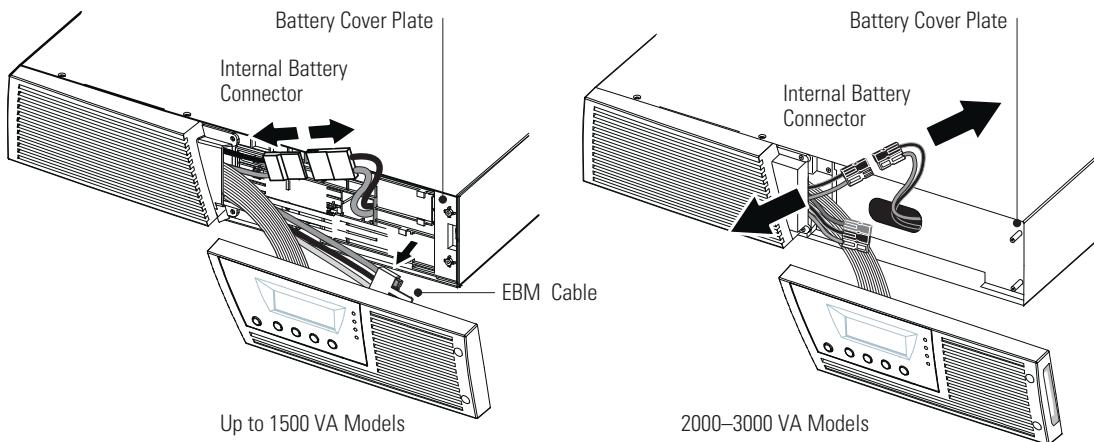
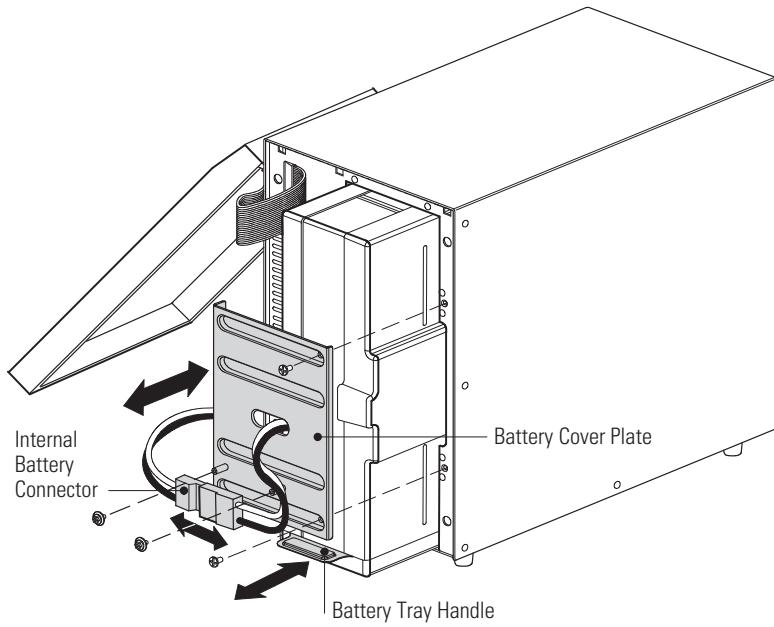

Figure 24. Disconnecting the UPS Internal Batteries (Shown without EBMs)
Figure 26. Replacing the UPS Internal Batteries
NOTE If the UPS requires any type of transportation, verify that the UPS is unplugged and turned off and then disconnect the UPS internal battery connector (see Figure 24 on page 47 for rackmount models or Figure 26 on page 49 for tower models).
2. Disconnect the internal battery connector (see Figure 24).
3. **Up to 1500 VA models only.** If the EBM cable is not connected to an EBM, unclip the EBM cable and move it to the left out of the way (see Figure 24).
4. Grasp an edge of the battery cover plate and pull it forward gently. Remove and retain the battery cover plate. See Figure 24 for the location of the battery cover plate.
9. **Up to 1500 VA models only.** If the EBM cable is not connected to an EBM, clip the EBM cable back into its holder on the battery cover plate. See Figure 24.
2. Remove and retain the two screws holding the internal battery connector. Disconnect the internal battery connector. See Figure 26.